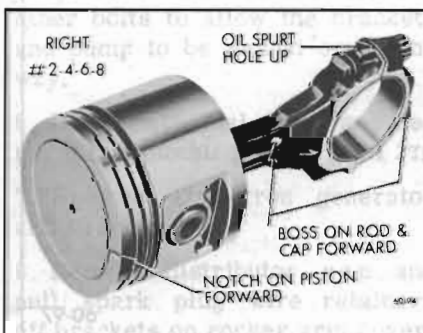

Figure 60-235—Right Bank Piston and Rod Assembly
3. If the piston and rod assembly is to be installed in the right bank, the assembly must be made as shown in Figure 60-235.